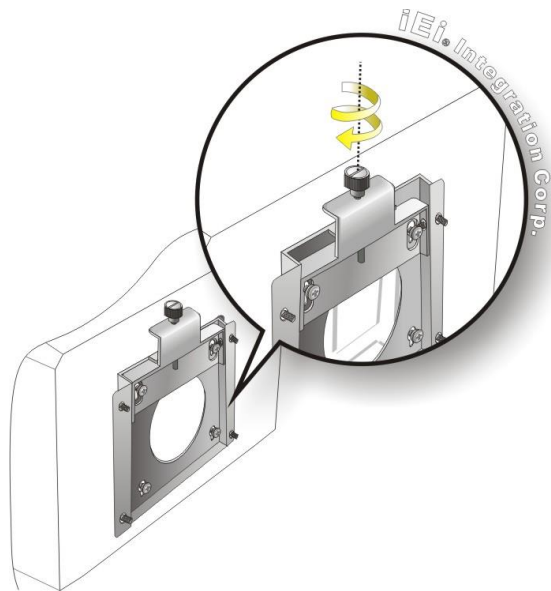

Figure 3-9: Secure the Panel PC
Step 9: Secure the panel PC by fastening the retention screw of the wall-mounting bracket (**Figure 3-9: Secure the Panel PC**).